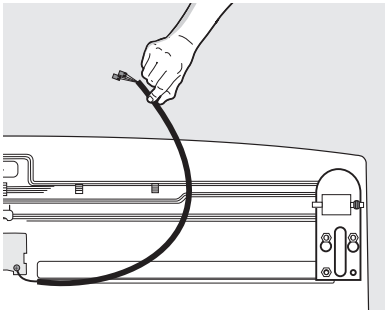

Figure 3
7. Slide the gray cable and connectors out of the plastic channel located on the bottom right side of the cabinet (see Figure 3).